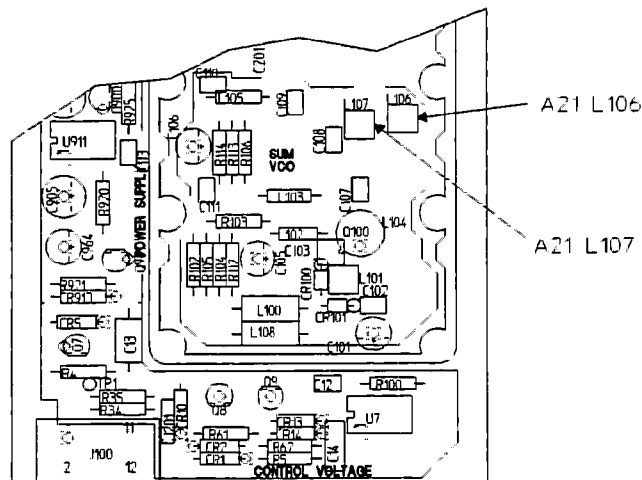
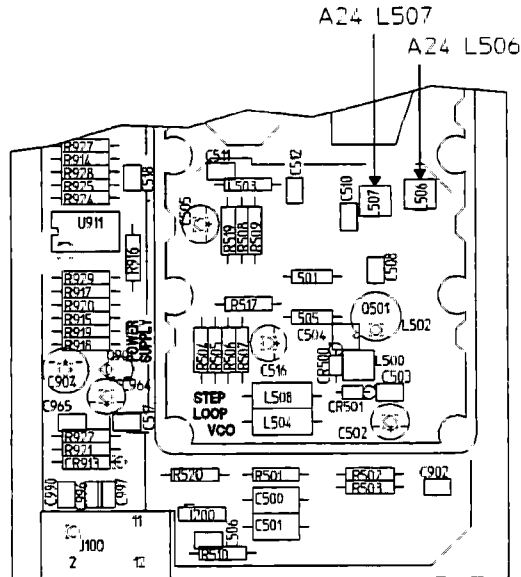

Figure 5-5. A21 Sum VCO Component Locator
Figure 5-6. A24 Step VCO Component Locator
6. Through the holes in the shield can, alternately adjust A21 L106 and L107 (see figure 5-5) for a flatness (maximum amplitude minus minimum amplitude) of less than 3 dB(p-p). During this adjustment, periodically clear the spectrum analyzer's maximum hold function.
d. Set the power switch to ON (I), then press the following keys:
e. Through the holes in the shield can, alternately adjust A24 L506 and L507 (see figure 5-6) for a flatness (maximum amplitude minus minimum amplitude) of less than 3 dB(p-p). During this adjustment, periodically clear the spectrum analyzer's maximum hold function.
Note  If PRETUNE SLOPE cannot be adjusted for 306 ± 0.5 MHz, adjust either A21 L101 (see figure 5-5) or A24 L500 (see figure 5-6). Adjusting A21 L101 clockwise or A24 L500 counterclockwise reduces the frequency.